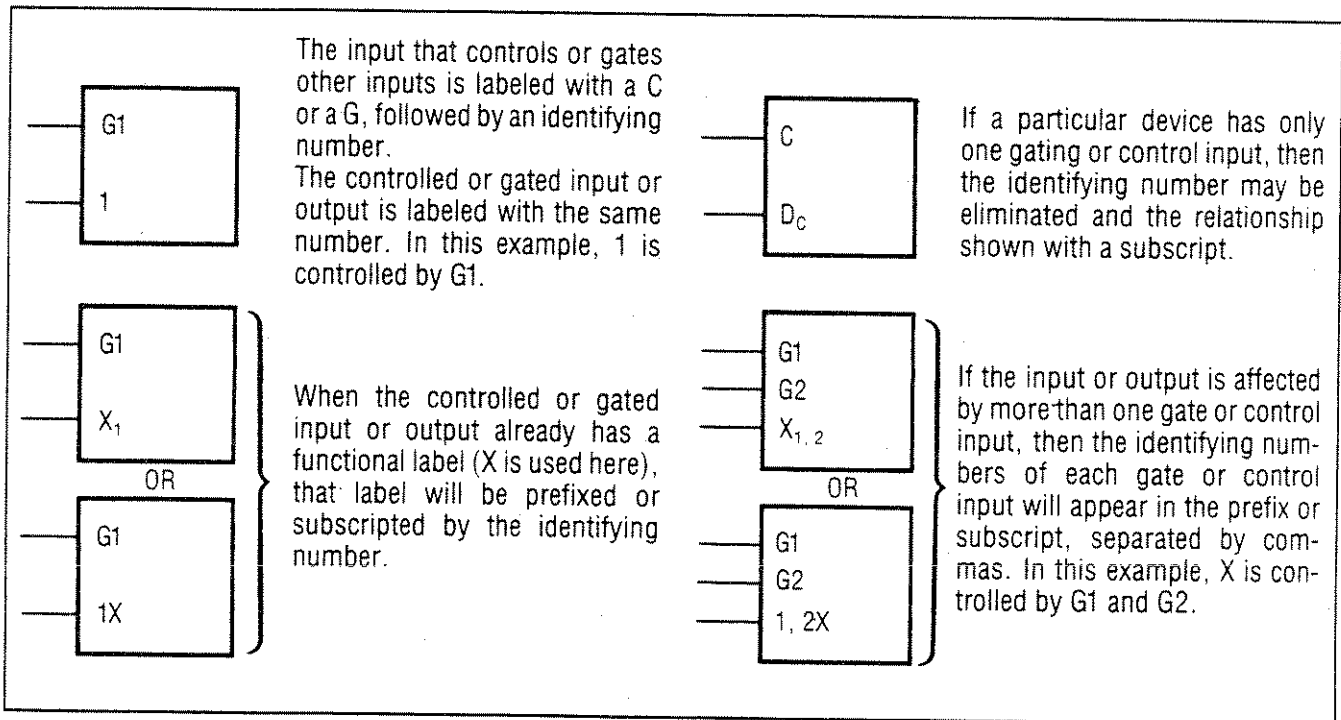

Figure 8-92. AND Dependency Notation
**Dependency Notation.** Dependency notation simplifies symbols for complex integrated circuit elements by defining the relationship between inputs and outputs without actually showing all the elements and connections involved (see Figures 8-92 through 8-94). The following examples use the letter A for address, C for control, G for AND, V for OR, and F for free dependencies.